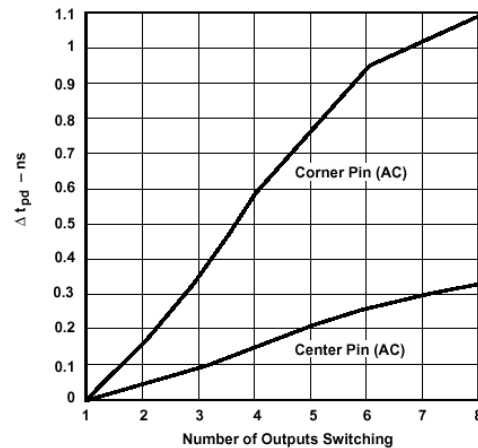

Figure 7.13 Propagation Delay increase with multiple output switching
- Figure 7.13 shows the influence on the delay time of the number of outputs that are switched simultaneously.